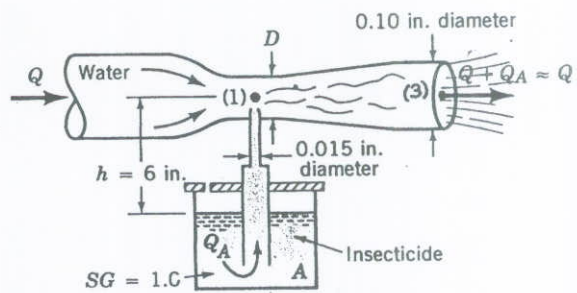

FIGURE P3.71
3.71 The device shown in Fig. P3.71 is used to spray an appropriate mixture of water and insecticide. The flowrate from tank A is to be  $Q_A = 0.02$  gal/min when the water flowrate through the hose is  $Q = 1$  gal/min. Determine the pressure needed at point (1) and the diameter,  $D$ , of the device. For the diameter determined above, plot the ratio of insecticide flowrate to water flowrate as a function of water flowrate,  $Q$ , for  $0.1 \leq Q \leq 1$  gal/min. Can this device be used to provide a reasonably constant ratio of insecticide to water regardless of the water flowrate? Explain.